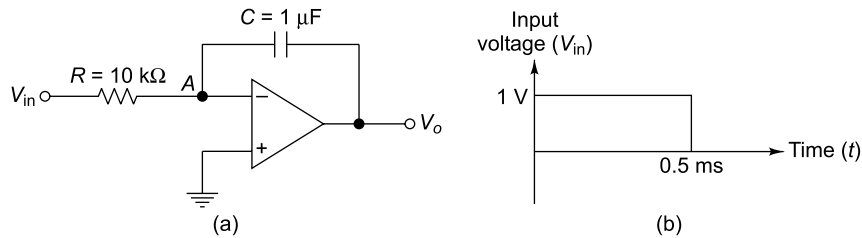

Fig. 5.41 Circuit of Ex. 5.20
5.20 When a step voltage input is applied to an integrator circuit from 0 to 0.5 ms as shown in Fig. 5.41, find out the output voltage at $t = 0.5$ millisecond.